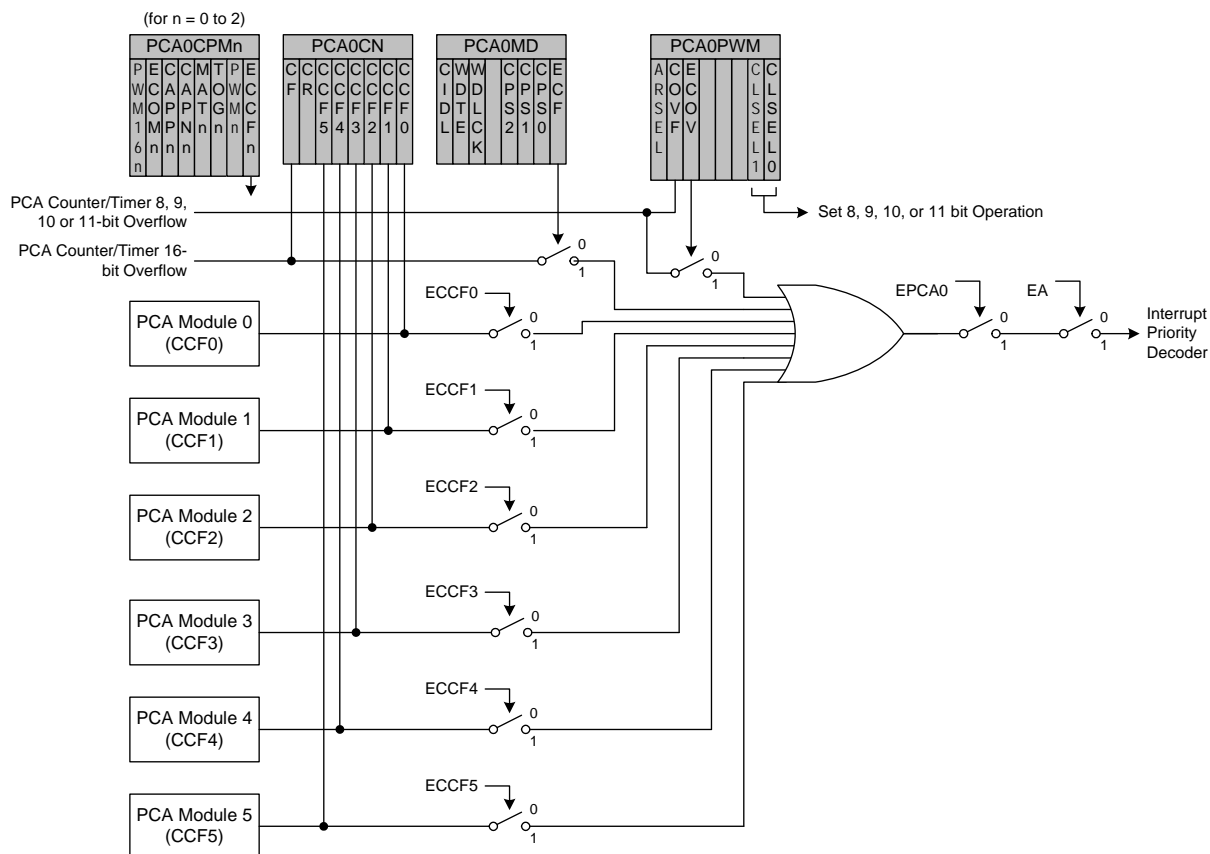

Figure 23.3. PCA Interrupt Block Diagram
Figure 23.3 shows a diagram of the PCA interrupt tree. There are five independent event flags that can be used to generate a PCA0 interrupt. They are as follows: the main PCA counter overflow flag (CF), which is set upon a 16-bit overflow of the PCA0 counter, an intermediate overflow flag (COVF), which can be set on an overflow from the 8th, 9th, 10th, or 11th bit of the PCA0 counter, and the individual flags for each PCA channel (CCF0, CCF1, CCF2, CCF3, CCF4, and CCF5), which are set according to the operation mode of that module. These event flags are always set when the trigger condition occurs. Each of these flags can be individually selected to generate a PCA0 interrupt, using the corresponding interrupt enable flag (ECF for CF, ECOV for COVF, and ECCFn for each CCFn). PCA0 interrupts must be globally enabled before any individual interrupt sources are recognized by the processor. PCA0 interrupts are globally enabled by setting the EA bit and the EPCA0 bit to logic 1.